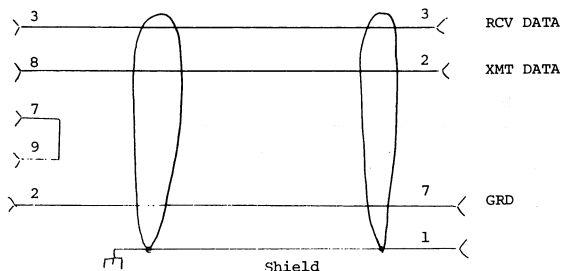

Figure 8 BC20N-05 "Null Modem" Cable
BC20N-05	5' EIA RS-232C null modem cable to directly interface with an EIA RS-232C terminal (2 \times 5 pin Amp female to RS-232C female; see Figure 8).
2. To directly connect to a local EIA RS-232C terminal, it is necessary to use a null modem. To design the null modem into the cable, one must switch RECEIVE DATA (pin 2) with TRANSMITTED DATA (pin 3) on the RS-232C male connector as shown in Figure 8.